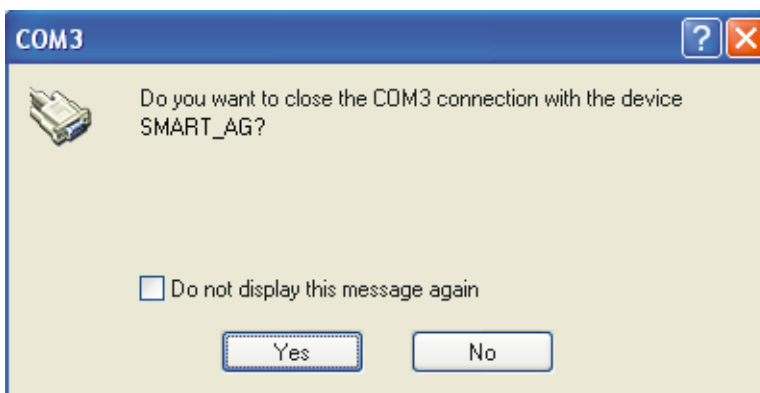

Figure 25: COM3 Disconnect?
4. Right-click on the *COM3* icon and select the *Disconnect Serial COM Port* option. A *COM3* dialog box appears, see *Figure 25* on page 56, to confirm that you want to disconnect.